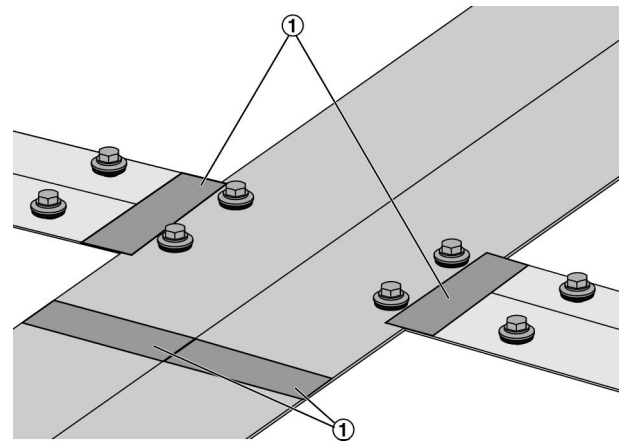

Fig. 17: Sealing the joints
2. ▶ Seal the joints (Fig. 17 /1) between the cover strips with self-adhesive sealing tape (butyl tape). Follow the tape manufacturer's instructions for use.